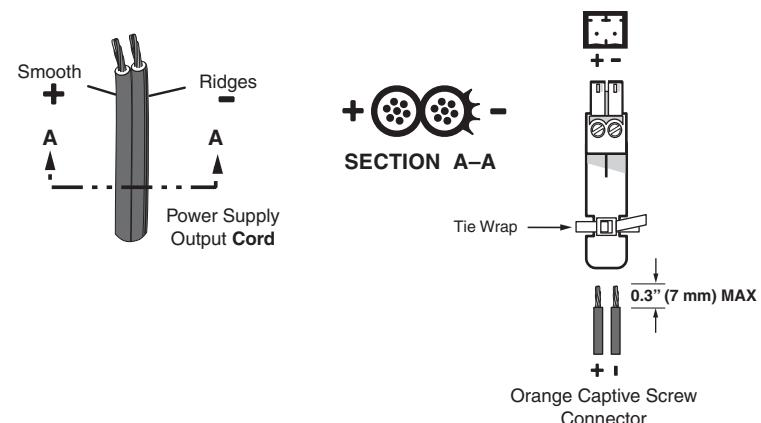

Figure 12 — Power connector wiring
- ⑩ **Power connector** — Plug the external 12 VDC power supply into this 2-pole captive screw connector. The power supply is included with the unit. Figure 12 shows how to wire the connector.
CAUTION Power supply voltage polarity is critical. Incorrect voltage polarity can damage the power supply and the MDA. Identify the power cord negative lead by the ridges on the side of the cord (figure 12).